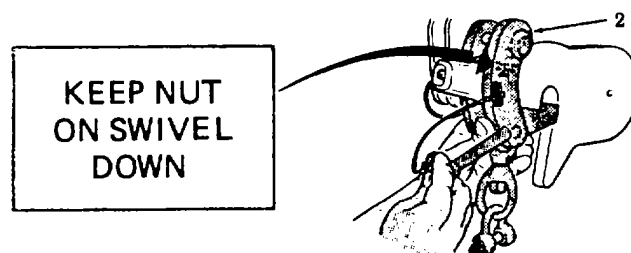
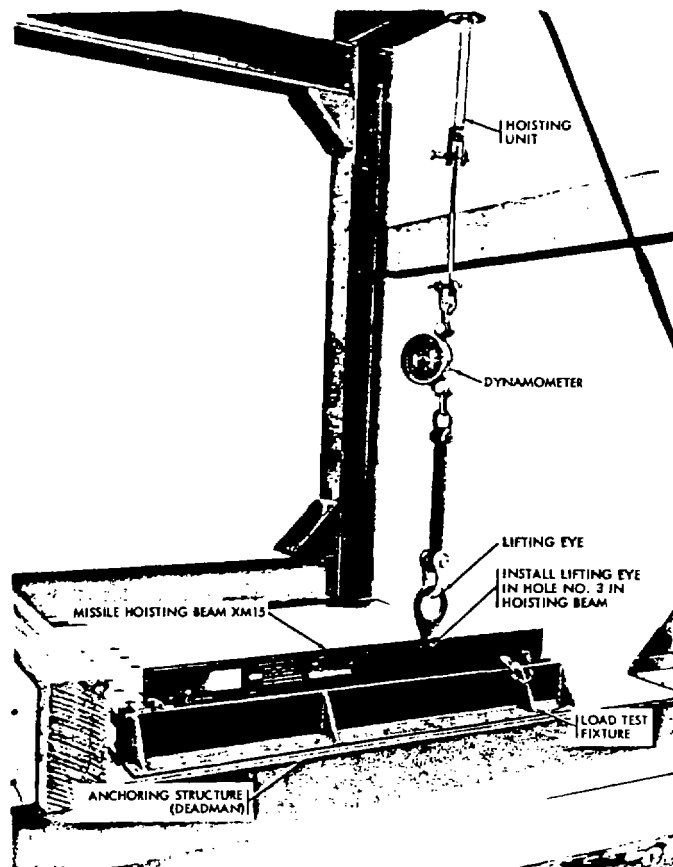

Figure 6-27. Hoist Adapter Installation.
Figure 6-30. Optional Method-Testing Missile Hoisting Beam XM15
(12) Lock out suspension system.
(13) Install hoist adapter on index fork which will be nearest to rear of missile.
(14) Attach missile hoisting beam XM15 to missile by inserting both hooks and locking with lock pins (Figure 6-27).
(15) Using EXTENSION lever, extend
a. Missile Hoisting Beam XM15 Test Preparation. The optional method for proof-loading the hoisting beam requires an anchoring structure (fig. 6-30 and 6-32) that will withstand a load of 2600 pounds when applied in tension by a hoisting unit and can be used to attach the load test fixture which is furnished in the proofloading kit. The load test fixture is designed to fit a deadman already existing at installations which service the HAWK missile system.
1) Secure load test fixture (fig. 6-30 and 6-31) to deadman.
(2) Latch missile hoisting beam XM15 to load test fixture, making sure arrows on side of test fixture and hoisting beam are oriented in same direction.
(3) Position hoisting beam lifting eyes in No. 3 hole in beam.
(4) Attach a shackle on each side of dynamometer. Attach a hook to lower shackle and insert hook into hoisting beam lifting eye.
(5) Attach upper shackle to hoisting equipment. Refer to figure 6-30 and 6-31 for installation details.
(6) Using hoisting equipment, gradually and continually apply tension until 2600 pounds is indicated on dynamometer. Hold this tension for one minute and gradually release the tension.
(7) Remove missile hoisting beam XM15 and visually inspect for any deformation. Manually latch it to alignment fixture and check for proper latching and unlatching. If no deformations are detected, and beam latches and unlatches properly, hoisting beam is satisfactory for handling missiles.
(1) Secure load test fixture (fig. 6-30 or 6-31) to deadman. Refer to step a.
(3) Position hoisting beam lifting eye in No 3 hole in beam.
(4) Install hoist adapter on right-hand index fork of loader superstructure. Refer to figure 6-27.
(5) Locate azimuth rotation of loader superstructure at zero degrees.
(6) Fully retract roll cylinder (roll right).